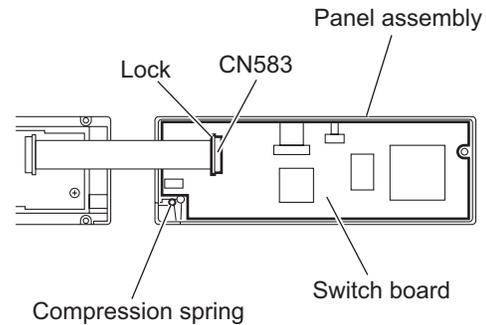

Fig.22
- From the inside of the panel assembly, release the lock of the connector CN583 on the switch board and disconnect the card wire. (See Fig.22.)
Do not lose the compression spring when taking out the switch board. (See Fig.22.)